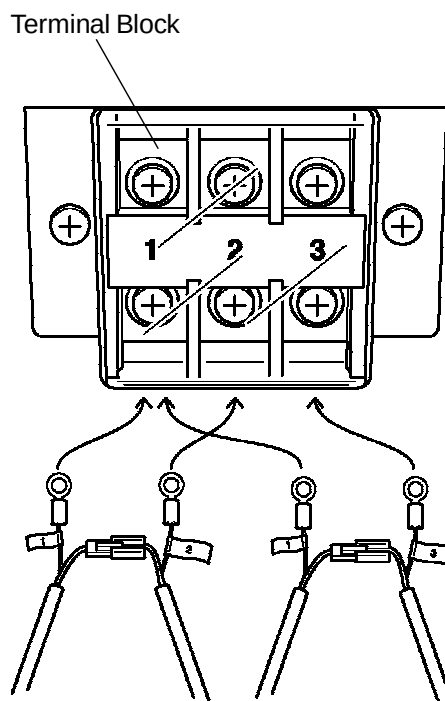

Fig. 13
- 4) Connect round eyelet contacts to the Terminal Block matching the numbers according to the label on the wires. See Fig. 13.